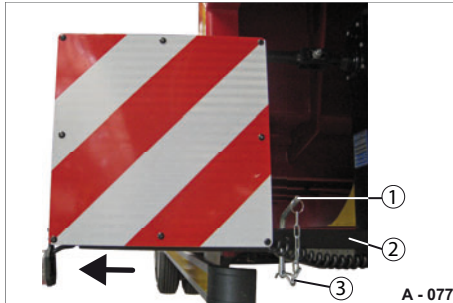

Fig. 93 Warning panel extended
- ▶ Remove the spring pin (Fig. 93/3).
- ▶ Remove the socket pin (Fig. 93/1).
- ▶ Pull out the rod (Fig. 93/2) with the warning panel as far out as necessary.